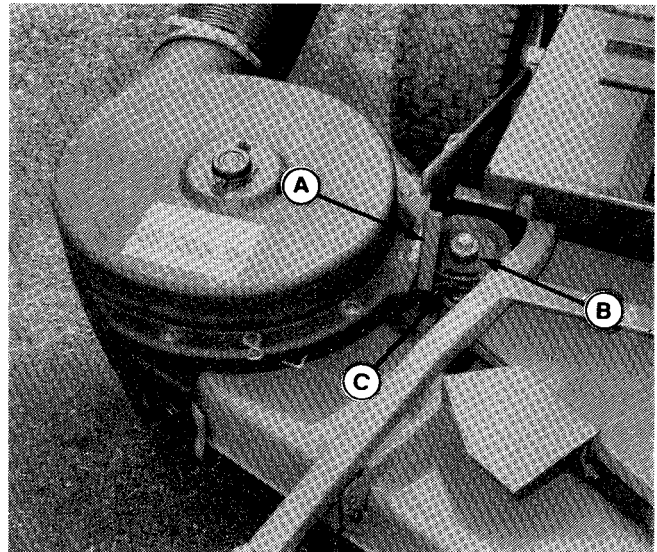

Figure 19.
- b. Raise the flap (A, figure 19) and install the blower drive belt (C) in the top groove of the pulley (B).
Remove the wing nut which holds the cover (B, figure 18) to belt cover. Remove the right-hand front mower attachment pin (K, figure 12). Push right-front corner of mower deck and swing the cover around so it covers the arbor (B, figure 19). Insert stud (C, figure 18) through the bracket and secure in place with the wing nut. Re-install the right-hand front attachment pin (K, figure 12).